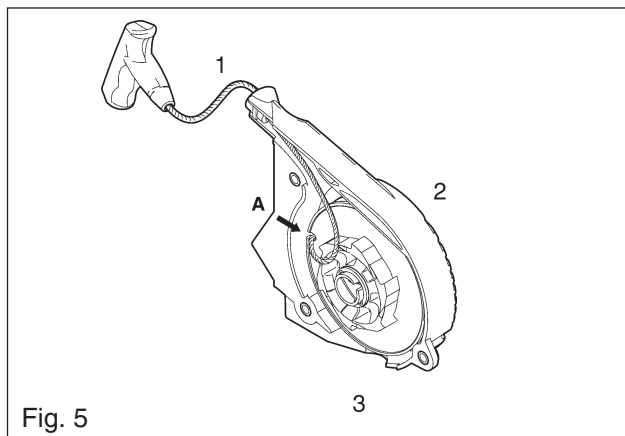

Fig. 5
Pull out about 40 cm of the rope (1) from the cover (2), and place the rope in the notch (A) on the starter pulley (3). See Fig. 5.